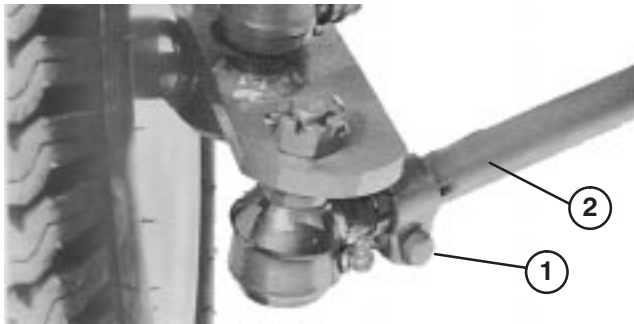

Figure 48
2. Loosen clamps at both ends of tie rods (Fig. 48).